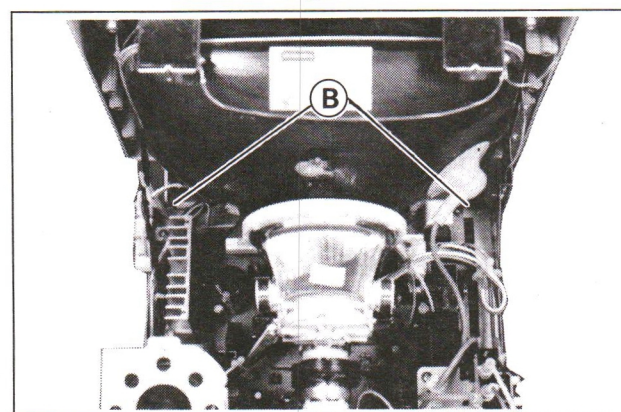

Fig. 2
1. Remove the two screws marked (B) in Fig. 2.